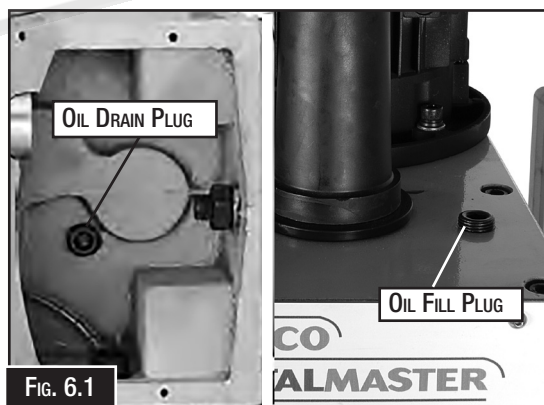

Fig. 6.1
3. Open the drain plug to allow the oil to drain from the opening completely. (Fig. 6.1)